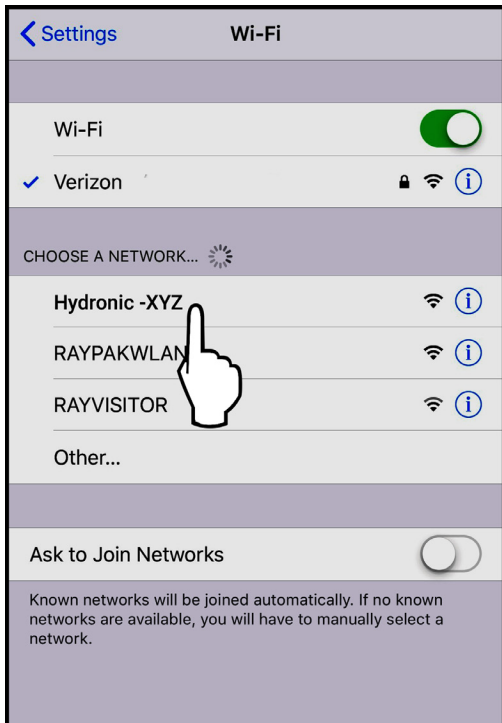

Figure 97. Select the HOTSPOT Identifier
4. Select the HOTSPOT identifier that matches the unit's Touchscreen as shown in **Figure 97**.